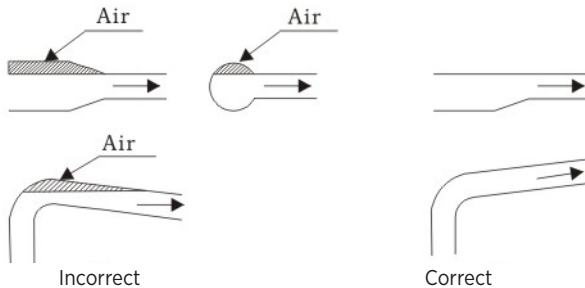

Figure 3.
7. Air locks shall be avoided when installing the inlet pipeline. see Fig 3.